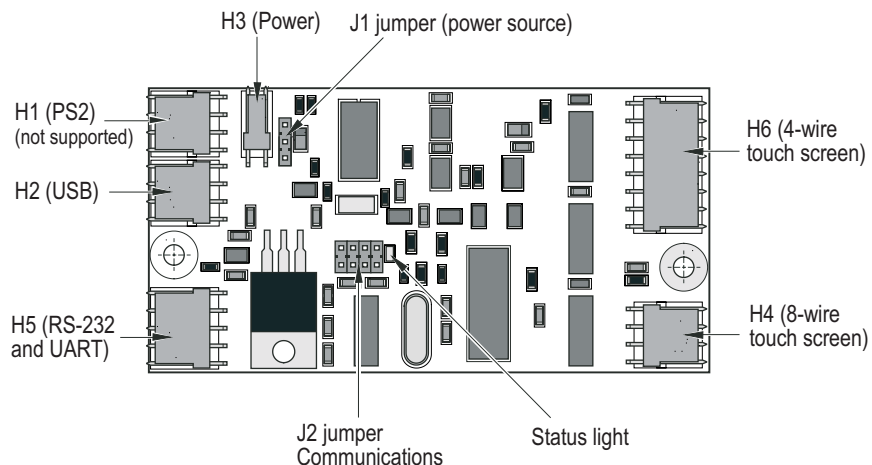

Figure 3: SC4 Controller connectors and jumpers
The controller has interfaces for serial (RS-232 and UART) and USB communications. To select the communication interface, change the position of jumper J2 (Figure 3).
1. Connect the RS-232 cable to header H5 on the controller (Figure 3).
2. Connect the custom cable to header H5 (Figure 3) on the controller and to the host computer's UART.
1. Connect the USB cable to header H2 on the controller (Figure 3).
1. Connect the 9 VDC power connector to header H3 on the controller (Figure 3).